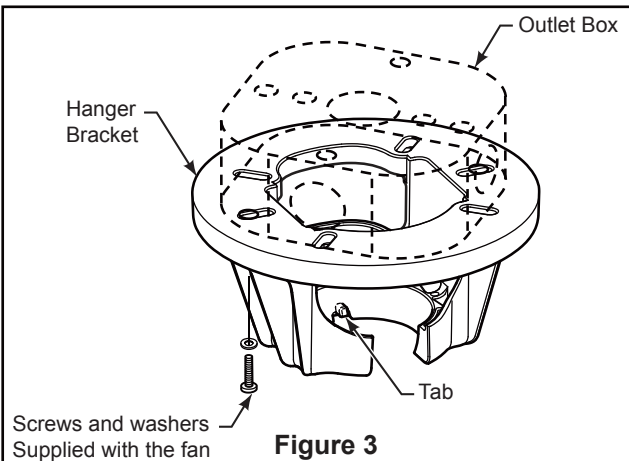
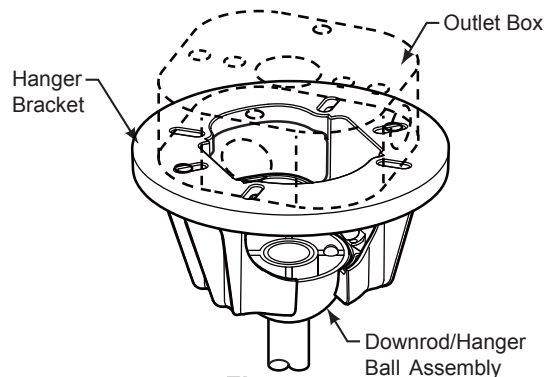

Figure 3
Figure 4
- 3. Loosen the two set screws and locking nuts in the downrod support of the motor assembly. Route the wires through the downrod. (Figure 3)
4. Slide downrod into the downrod support on top of the motor. Install the clevis pin by aligning the holes in the downrod support with holes in the downrod. Secure clevis pin with hairpin clip. Install and tighten the two set screws with nuts in the downrod support. Securely tighten the set screws with screwdriver then fully tighten the nuts by hex wrench. (Figure 4)
1. Securely attach the hanger bracket to the outlet box using the #8-32 outlet box screws and washers supplied with the fan. (Figure 3)
**NOTE:** Outlet box screws pass through slotted holes of the hanger bracket. (Figure 3)
3. Carefully lift the fan and seat the downrod/hanger ball assembly on the hanger bracket that was just attached to the outlet box. (Figure 4) Be sure the groove in the ball is lined up with tab on the hanger bracket. (Figure 3)
- 2. Slide the receiver into the hanger bracket before wiring as shown in figure 3.
3. Connect wires using connectors as shown in Figure 4. Connect the 2 pin connectors from the motor assembly to the 2 pin connectors from receiver, connect the 3 pin connectors from the motor assembly to the 3 pin connectors from receiver.
- 4. Assemble the light kit wire cover assembly to the switch housing assembly using the two key slots in the light kit wire cover assembly. Replace the previously removed screw and securely tighten all three screws. (Figure 4)
- 4. If you need to replace the batteries. Remove the battery cover from remote control by screwdriver and retain the screw for later. (Figure 4)